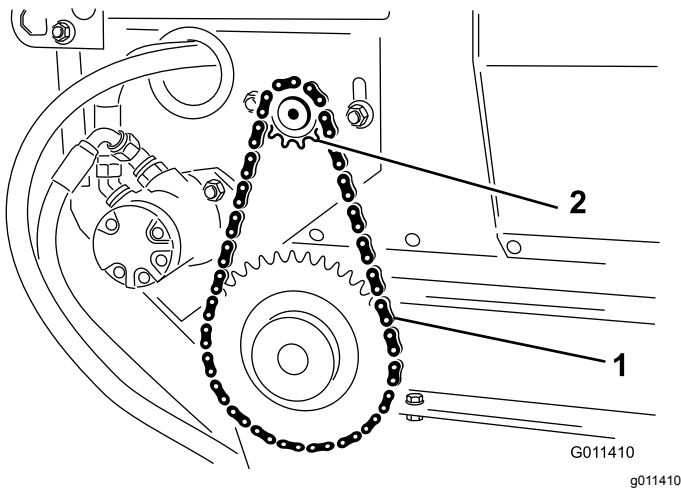

Figure 25
2. Loosen bolts and nuts securing motor and sprocket assembly to the main frame (Figure 25).